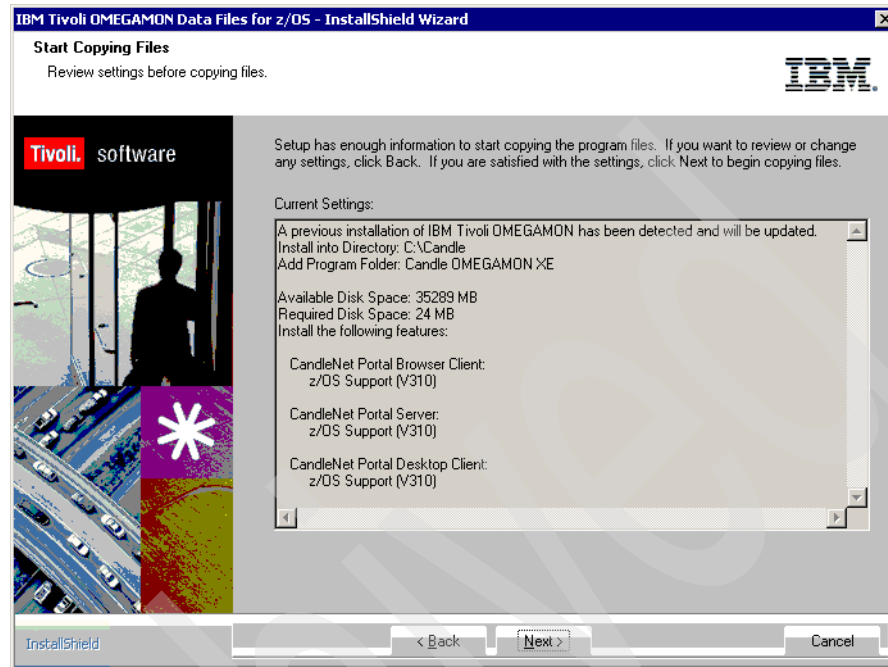

Figure 3-46 Installation summary window
3. Verify the selection on the installation summary window shown in Figure 3-46.